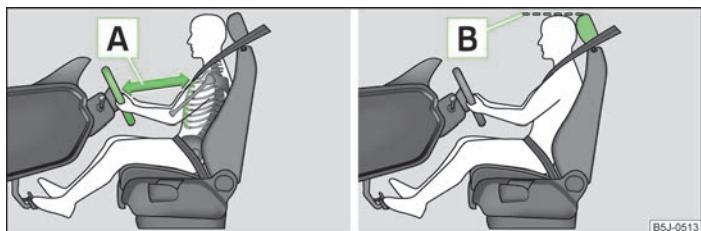

Fig. 93 The correct distance of the driver to the steering wheel/The correct head restraint adjustment
- Adjust the steering wheel so that the distance **A** » Fig. 93 between the steering wheel and your chest is at least 25 cm.
- Adjust the head restraint so that the top edge **B** » Fig. 93 on page 102 » page 102 of the head restraint is at the same level as the upper part of your head.